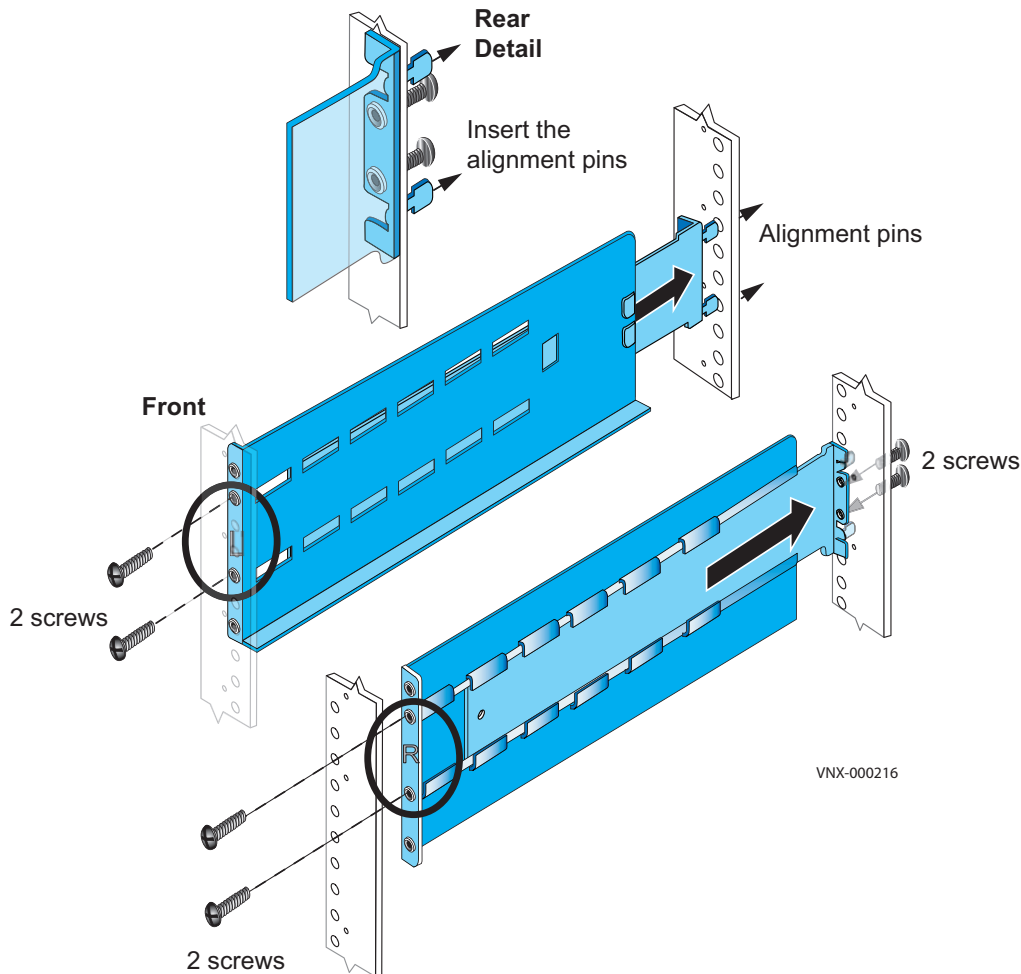

Figure 7 Installing the 3U DAE rails
3. Extend the adjustable rail so that it reaches the front channel of the cabinet and check the alignment of the rail to ensure that the front of the rail is level with the back. Once you are satisfied with the alignment, insert screws from the front of the cabinet. For the 3U rails shown in Figure 7, insert two screws into the rail's two middle threaded screw holes. For the 2U rails shown in Figure 8, insert one screw into the rail's bottom threaded screw hole.